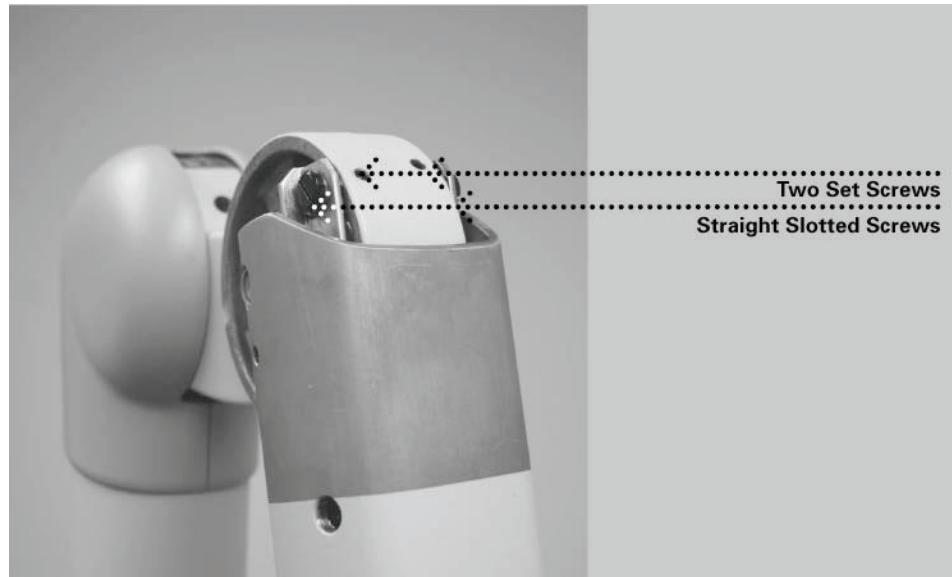

Figure 73
Follow this procedure ONLY if the yoke assembly does not stop on its own and hits the horizontal arm. Refer to Figure 73 while following the procedures below.
1. Loosen the two set screws highlighted in Figure 73, but do not remove them completely.
2. Loosen the two straight-slotted screws highlighted in Figure 73 (the figure shows only one of the two screws – the other is located on the opposite side of the arm), but do not remove them completely.